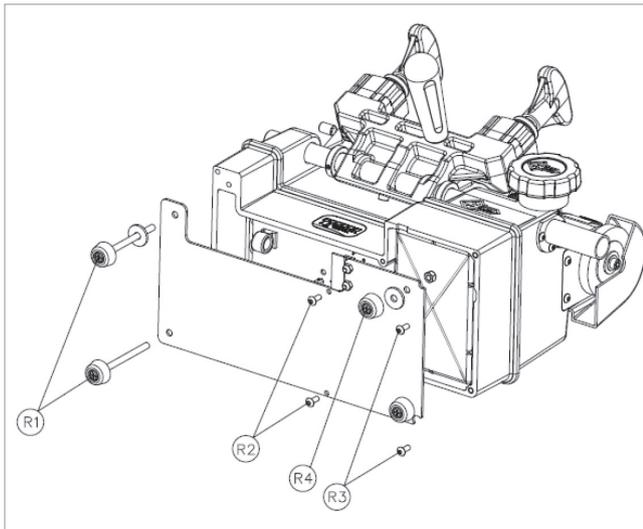

Fig. 13
**⚠ ATTENTION:** turn off the machine with motor switch (T), turn off main power switch (N), close the switch protection cover (N1) and check that it is **NOT** connected to the battery.
- 2) To remove the Bottom Plate, loosen and remove the front screws (R1), (R2) and (R3) (Fig. 13).
- 3) Loosen screw (R4) from the bottom plate (Fig. 13).